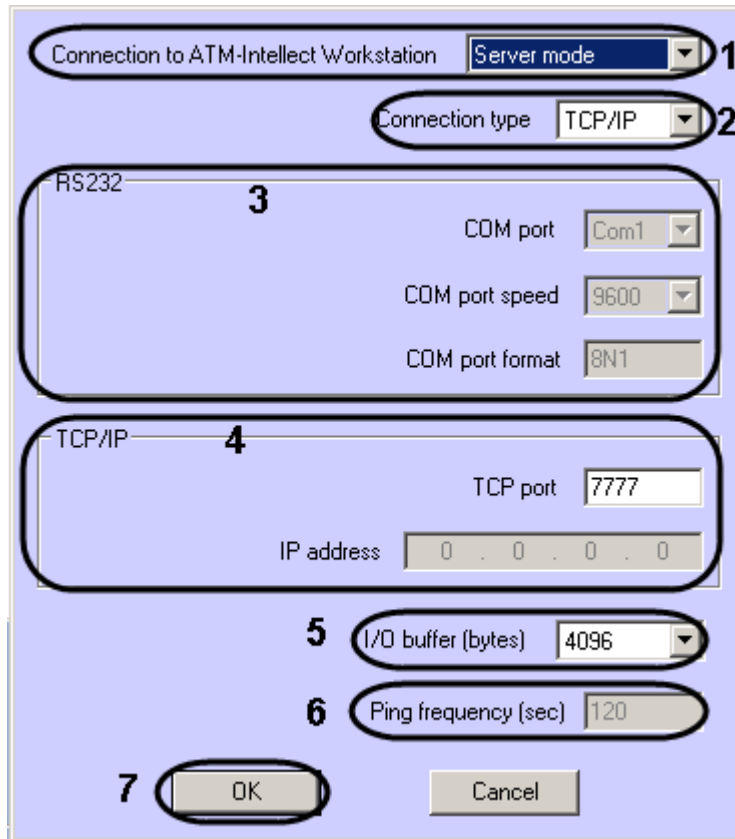

Fig. 8.4—4 Selecting the interface method between ATM Intellect Pro and ATM Intellect Workstation
3. In the **Connection to ATM Intellect Workstation** drop-down list select one of the two available methods for connecting *ATM Intellect Pro* to *ATM Intellect Workstation* will be used: **Server mode** or **Client mode** (Fig. 8.4—4, 1).